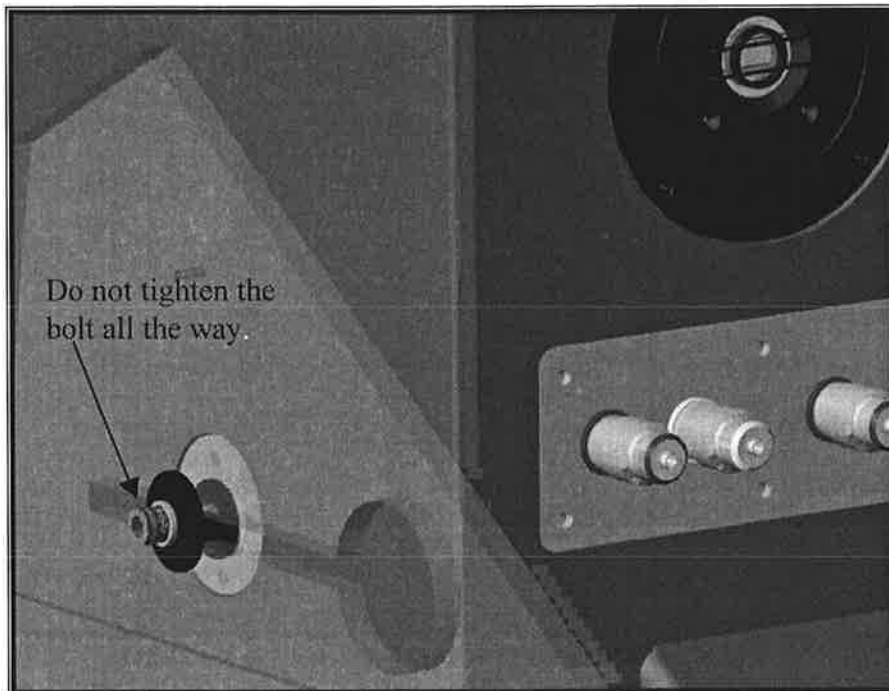

FIGURE 15 HALF WAY TIGHTENED BOLT
- Insert the two 5/16" -18 X 1 3/4" bolts, washers, and alignment washers. Only tighten the bolt half way (see Figure 15).